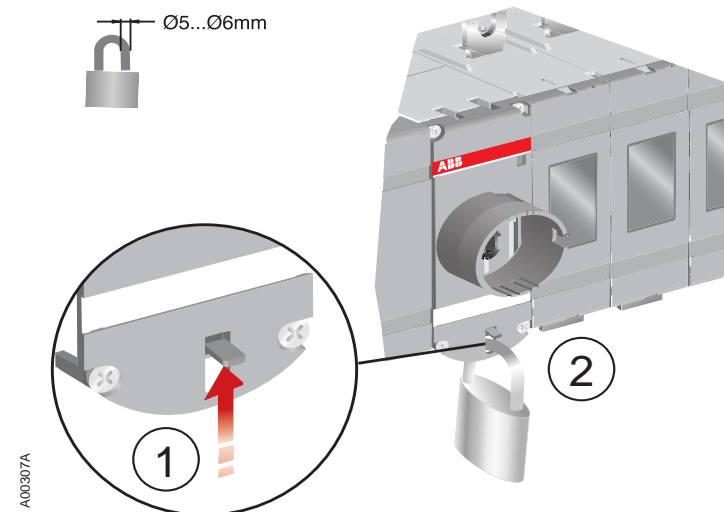

Figure 5-8 Locking the electrical operation
2. Place the padlock under the latch, see Figure 5-8.